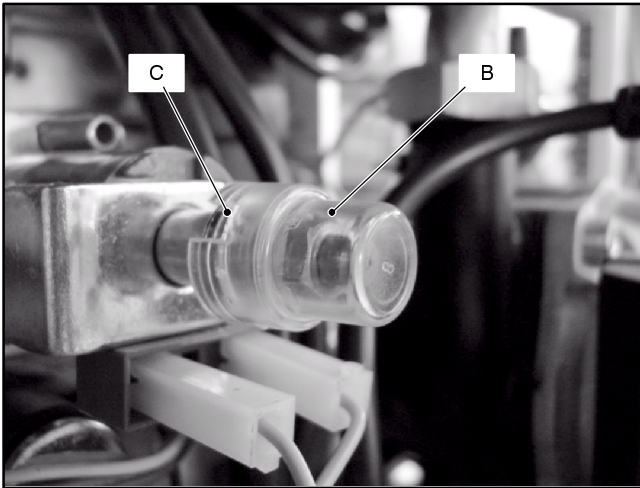

Fig. 54
- 5 Remove the protection cap B (Fig. 54) from the mechanical pressure adjustment components levering with a flat screwdriver in the slots C.